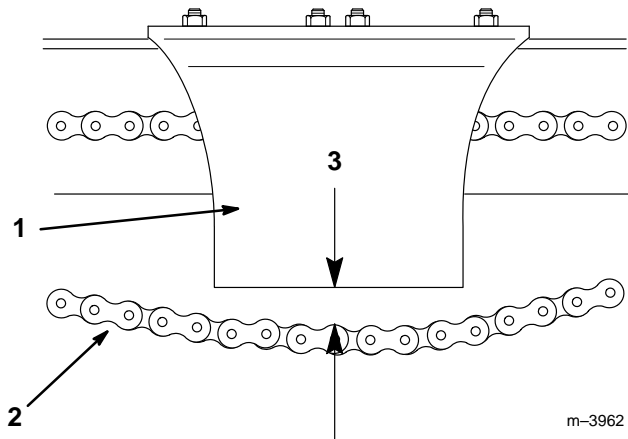

Figure 23
4. Measure the distance between the bottom of the chain guard and the lower chain span (Fig. 23). If the slack in the chain is not within 1-1/2 to 2-1/2 inches (3.8 to 6.35 cm), adjust the tension (refer to Adjusting the Tension).
- Adjust the chain tensioning bolt until the distance between the bottom of the chain guard and the lower chain span is within 1-1/2 to 2-1/2 inches (3.8 to 6.35 cm) (Fig. 23).